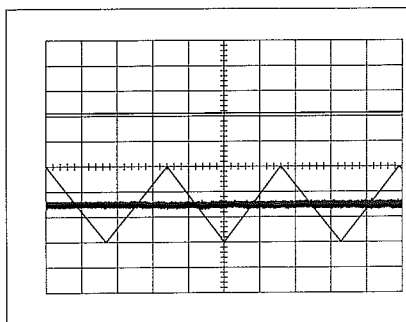

Figure 3-12 R400 adjusted to place "noisy" line in the center of the triangle signal
10. Adjust A32R400 to center the flat trace in the clean triangle trace as shown in figure 3-12.